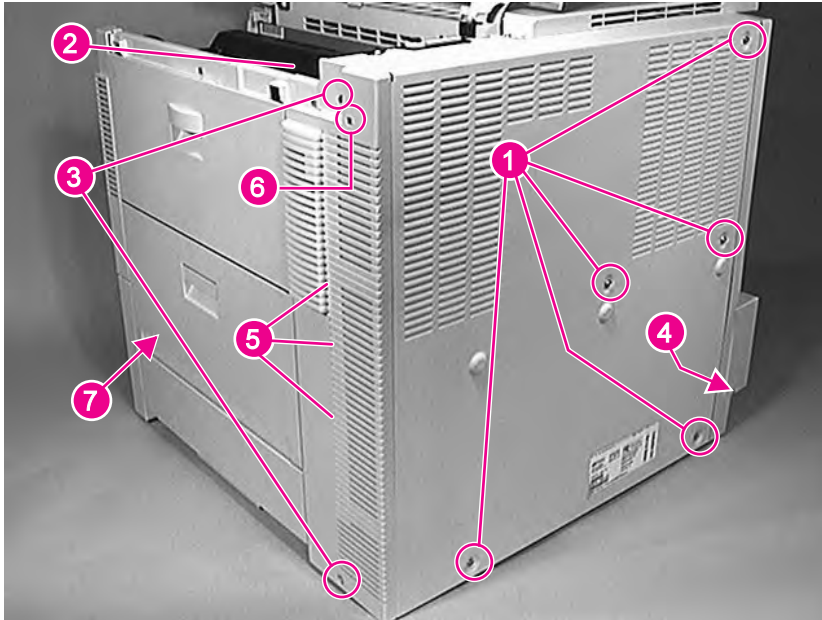

Figure 6-6 Back Cover
- 1 Remove 5 screws (figure 6-6, callout 1).
- 2 Open the top cover door, and remove 1 screw (figure 6-6, callout 2)
- 4 Remove 2 screws (figure 6-6, callout 3) from the plastic panel to the left of the metal back cover.
- 5 Carefully release the cover around the AC input connector (figure 6-6, callout 4) at the lower right of the back cover, and slide the right side of the cover slightly forward.
- 6 Carefully release the retaining tabs (figure 6-6, callout 5) on the plastic panel to the left of the metal back cover by gently pulling the cover to the left while moving both pieces away from the printer chassis.
- 1 Remove the back cover assembly (see figure 6-6).